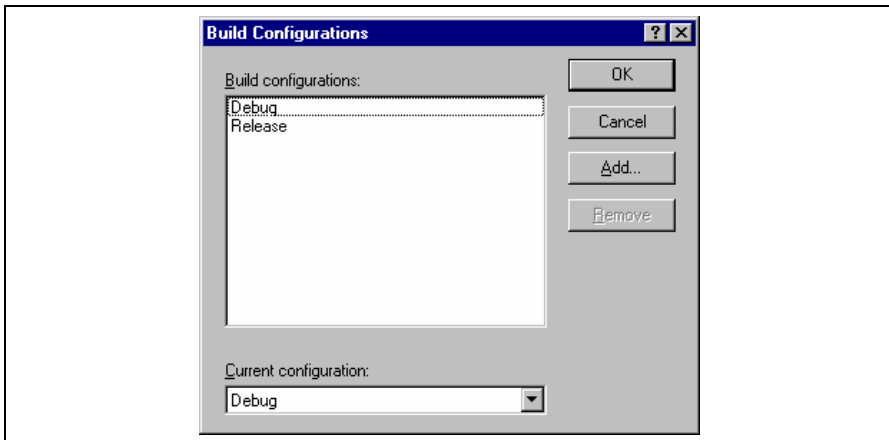

Figure 2.16: Build Configurations Dialog
1. Select [Options->Build Configurations...]. This will invoke the “Build Configurations” Dialog (figure 2.16).
1. Select [**Options->Build Configurations...**] to display the “Build Configurations” dialog (figure 2.16).